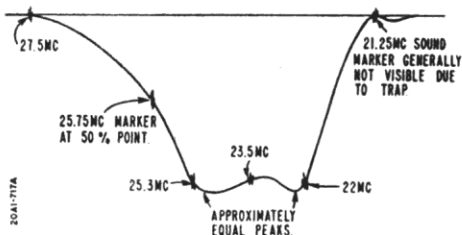

Figure 33A. Overall RF and Video IF Response Curve.
- Sweeping the RF pass band for an unassigned channel (see frequencies in "RF and Mixer Alignment"), check the overall response curve obtained against the ideal curve, figure 33A.
peaks with approximately equal amplitudes, as shown in figure 33A.
If necessary to adjust for peaks with approximately equal amplitude, carefully adjust IF slug A7 (23.5 MC coil) while observing the response curve. Turn slug about $\frac{1}{4}$ to $\frac{1}{2}$ turn in either direction until correct results are obtained. See figure 33A.